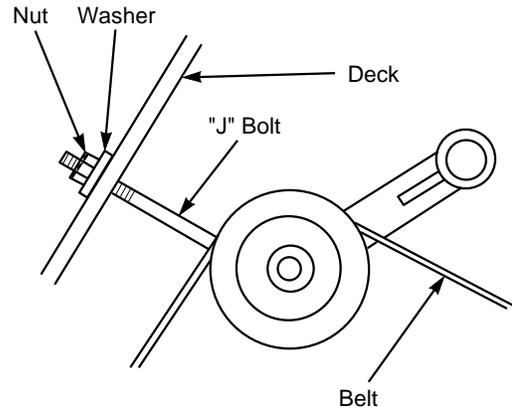

Figure 3. Cutter Deck Belt Adjustment R.H.
3. Adjust the RH blade drive belt using a belt tension gauge. Adjust the belt so that the belt moves 1/2" with 10 pounds of pressure. Adjust the tension by tightening or loosening the J-bolt nut. (See Figure 3).